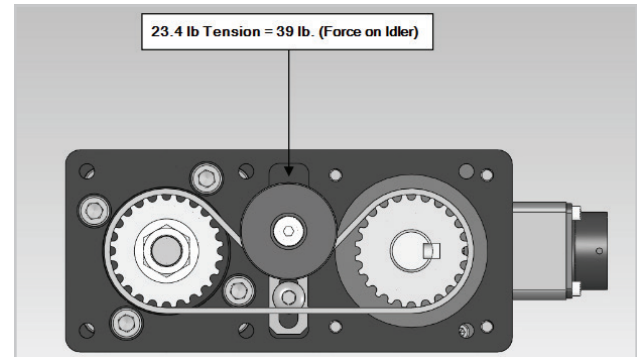

Figure 172
Step 10 – Install belt, tension using Force on Idler as shown in Figure 172.